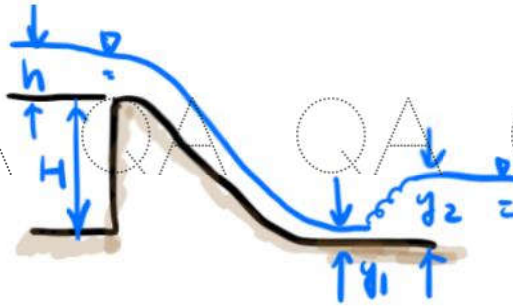

Figure 3
- b) An ogee spillway with  $H = 30$  m and total head  $h = 5$  is shown in figure 3. The downstream channel is a horizontal rectangular channel. It is assumed the tail water depth ( $y_1$ ) is the same with the conjugate depth ( $y_2$ ) Given discharge coefficient  $2.04 \text{ m}^{0.5}/\text{s}$ , calculate